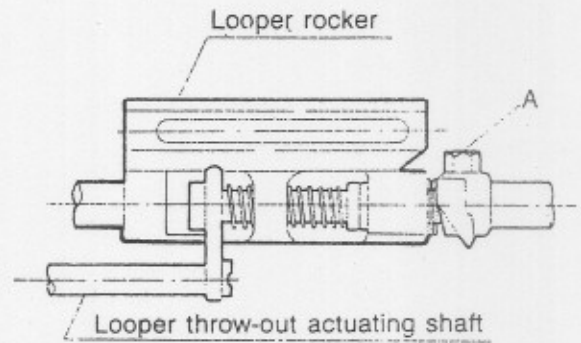

Fig 13
1. Loosen the looper rocker stopper screw A in Fig. 13.
2. In moving the looper rocker stopper in Fig. 13. to counterclockwise, the distance becomes shorter, and moving to clockwise, the distance becomes longer. When the distance is decided correctly, please tighten the screw A in Fig. 13.